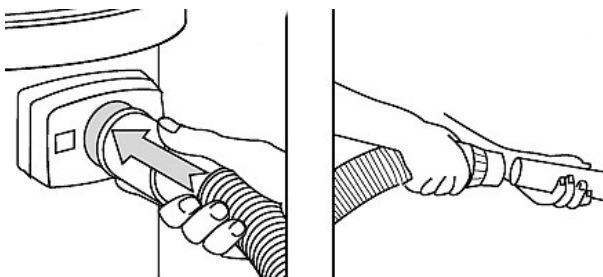

Fig. 7: Mounting hose
- Connect the suction hose to the suction opening of the dry vacuum cleaner. Connect the other end of the suction hose to an extension or suitable nozzle (Fig. 7).